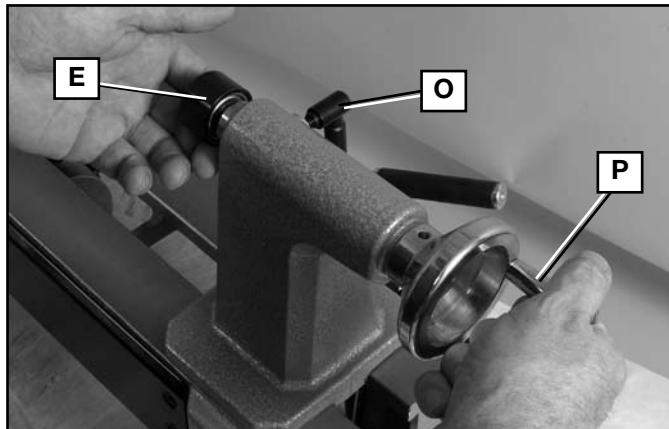

Fig. 27
2. Advance the live center (E) by turning the tailstock crank (P) Fig. 27 until the center cup makes contact with the workpiece.
4. Lock the quill locking screw (O).